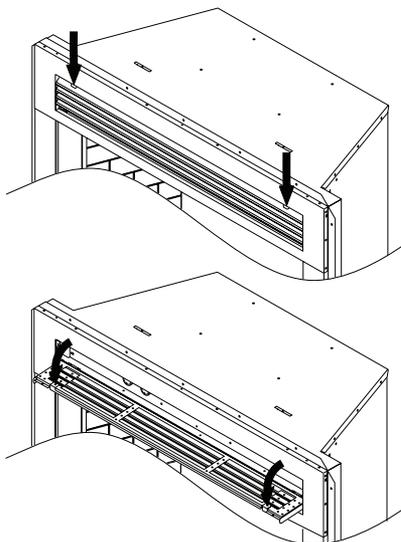
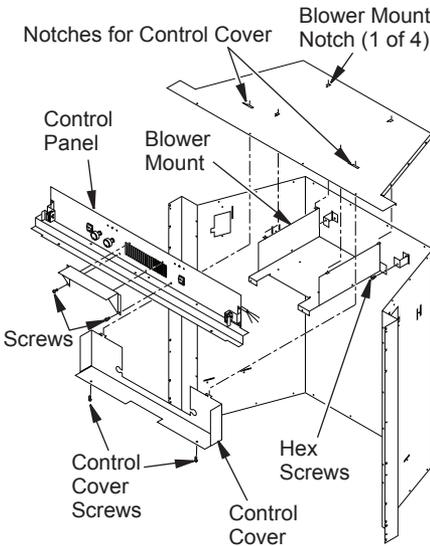

Figure 10 - Accessing Controls
Figure 18 - Disassembling Blower Mount
Access controls by pulling two handle tabs of upper louver until panel releases from magnetic catches and swings down to open position (see Figure 10).
1. Open upper control door (see Figure 10, on page 7) and remove 2 Phillips screws below heater grill on control panel (see Figure 18, page 11).
3. Slide control cover to the right and swing out locking tabs from notched openings on top (see Figure 18, page 11).
5. Remove 2 hex screws at rear of blower mount (see Figure 18, page 11).
6. Slide blower mount towards rear of firebox until locking tabs line up with notched openings and lower mount down and away (see Figure 18).
20. Raise control cover up and position 2 locking tabs through notched openings in firebox top, then slide to left until locked into position (see Figure 18, page 11).
2. Remove each retaining screw holding screen rods and pull entire screen and rod assembly out from locating hole on inside top edge of fireplace (see Figure 18, page 11).
4. Remove 2 Phillips screws holding control cover to control panel inside firebox (see Figure 18, page 11).
5. Slide control cover right and swing out locking tabs from notched openings on top. See detail Figure 18, page 11.